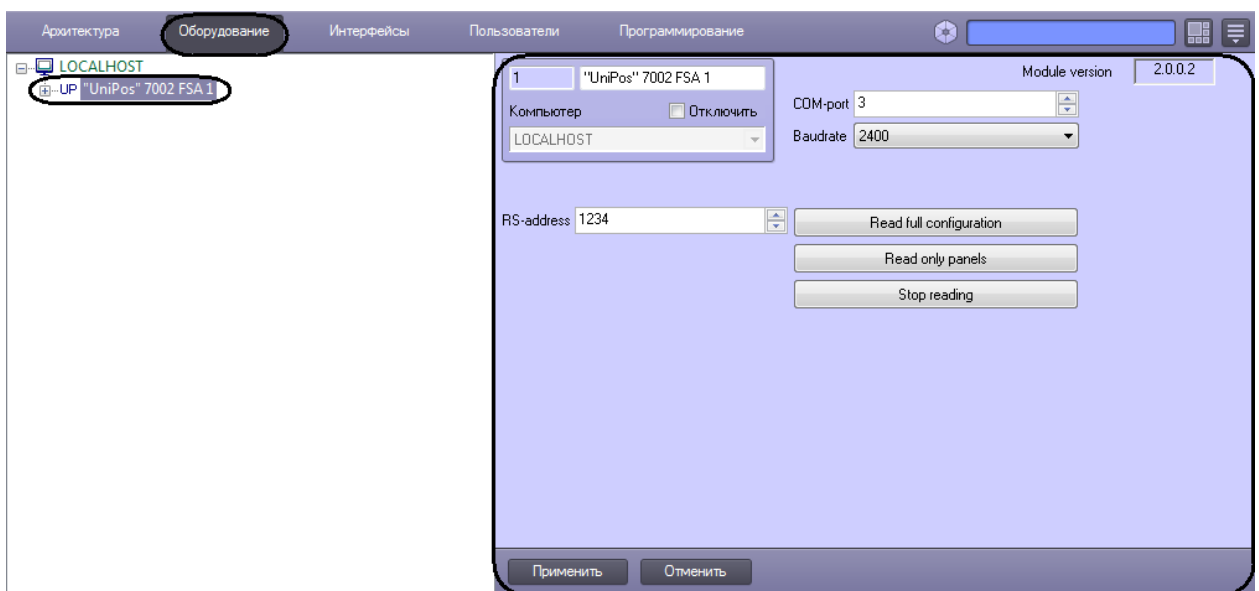

Fig. 3.2—1 UniPos 7002 FSA object
1. Create the **UniPos 7002 FSA** object on the basis of the **Computer** object on the **Hardware** tap of the **System settings** dialog window (Fig. 3.2—1).